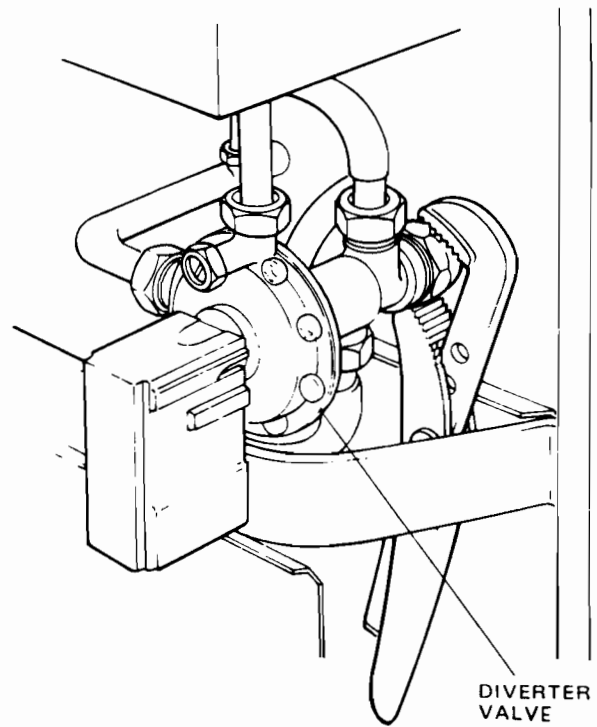

FIG. 43 DIVERTER VALVE REMOVAL
36. DIVERTER VALVE (see Fig. 43).